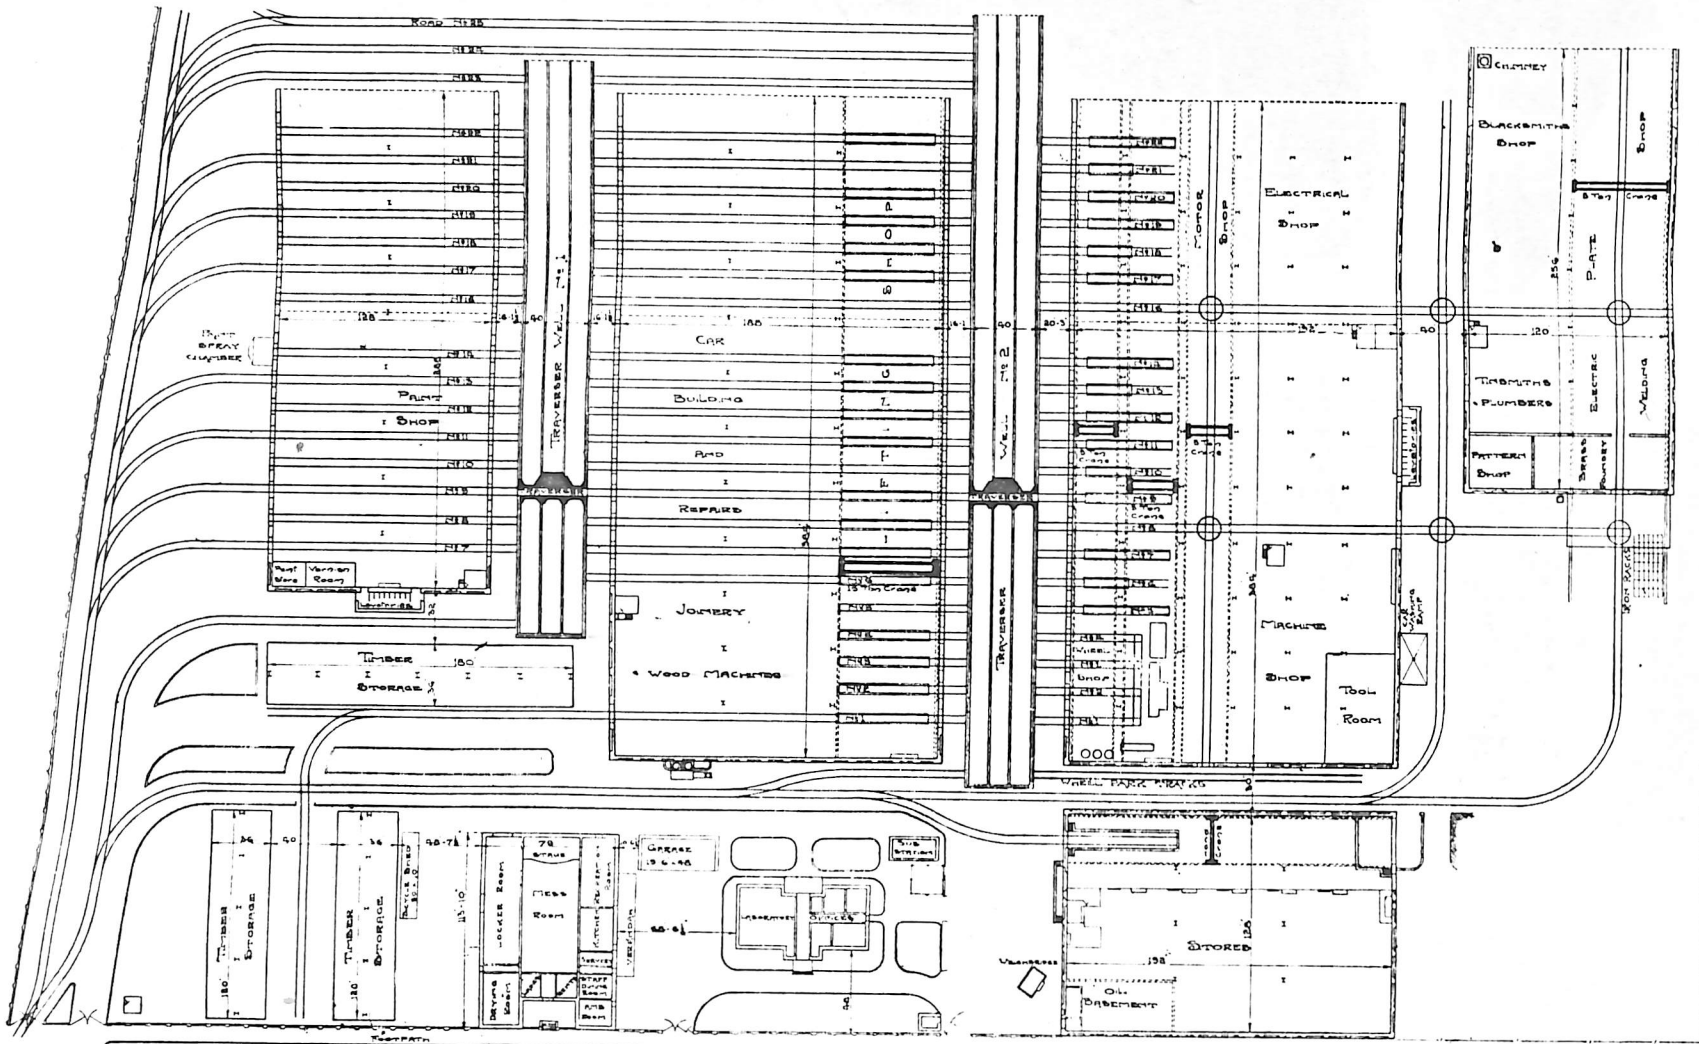

Fig. 1. General Plan of Melbourne Tramways Board's Workshops at Preston
The shops are situated at Preston, about five miles from the centre of the city. The present installation is designed for the maintenance of 600 running cars and building of 30 new cars per annum. Fig. 1 shows the general lay-out, which is so designed that extensions can be made without altering the flow of work in any way. The shops are arranged in four main groups: (1) engineering and electrical, (2) blacksmithing, platework and foundry, (3) wood-working and lifting, (4) painting. In addition there are stores, mess and recreation rooms and administrative offices. All the shops are of brick and steel construction and have corrugated iron roofing with south lighting. The height to the roof trusses is 19 ft. The paint shop is located on the western side of the area, as being the cleanest place. It should be entirely free of dust and smoke from the works, as the trades which use fire are grouped together on the eastern side of the area, and the prevailing winds are from the west. The main store is placed in the south-east corner in a position which is as near as possible to the centre of gravity of the employees at the works, and which is handy for the reception of goods. The timber stores are so located as to be convenient for receiving timber and handy to the woodworking shop. In the main timber shed is a cross-cut saw for cutting timber to length before it goes into the shop. The administrative offices are situated on the main frontage in a central position, and the mess and recreation rooms are close by.